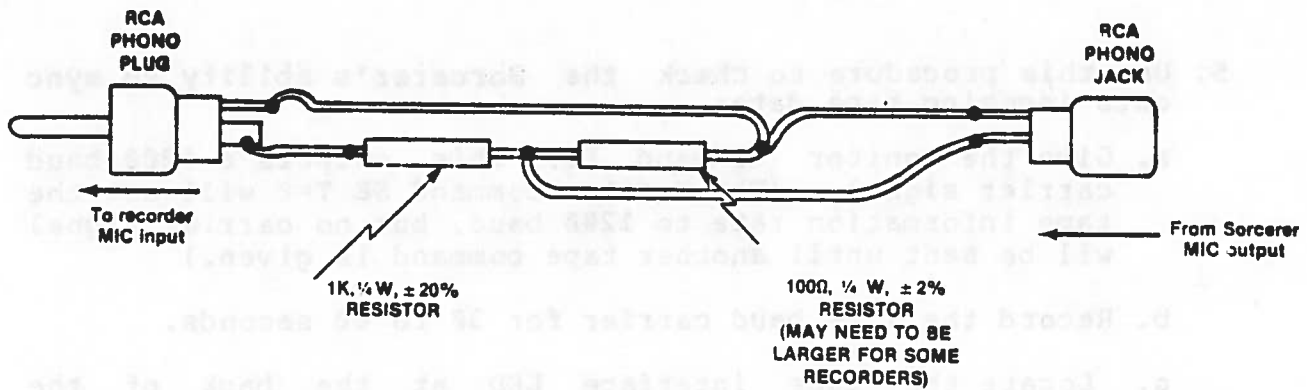

Figure 6 Attenuator Plug
7. Some recorders have very sensitive MIC inputs which are overloaded by the Sorcerer's 50 mV MIC input. You can usually get good results by connecting the recorder's AUX input to one of the Sorcerer's AUX outputs; however, the recorder's AUX may not work with the Sorcerer's MIC. If you wish to use the Sorcerer MIC output, you must use an attenuator plug, which reduces the 50 mV output to a level the recorder's MIC will accept. Figure 6 shows how to make an attenuator plug.